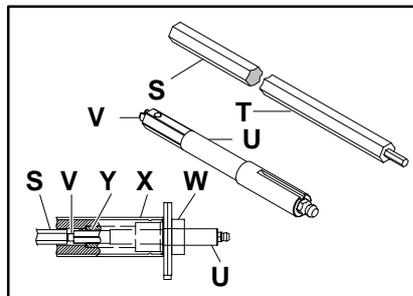

Figure 12
Removal of the outboard drive shaft (U of Figure 12) requires use of Dorner hex key wrench extension tool (T).